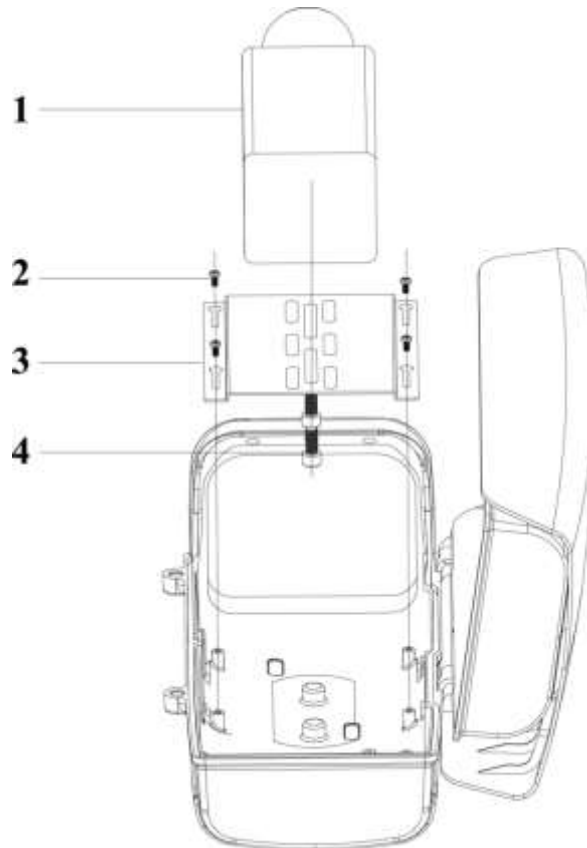

Figure 2-8
Step 3 Fix camera installation plate onto housing shell, as shown in Figure 2-8.